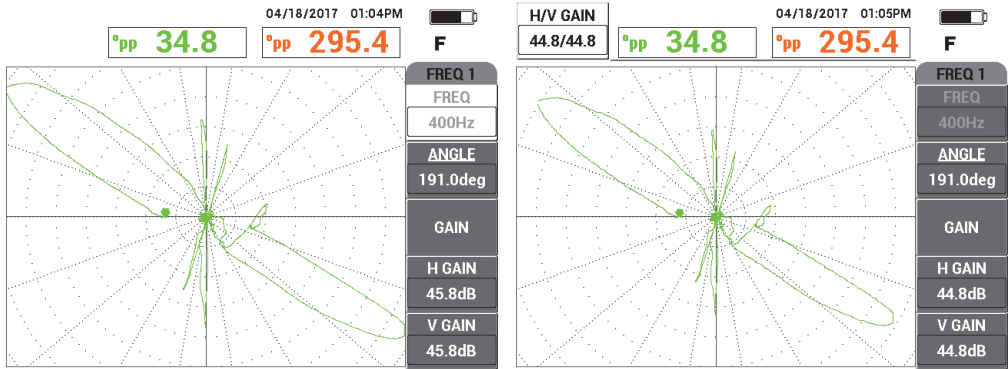

Figure 5-198 The support ring's signal clipped (*left*) and with adjusted gain (*right*)
- Adjust the support ring signal so that it is not being clipped by the screen (8 to 9 major divisions) [see Figure 5-198 on page 269].